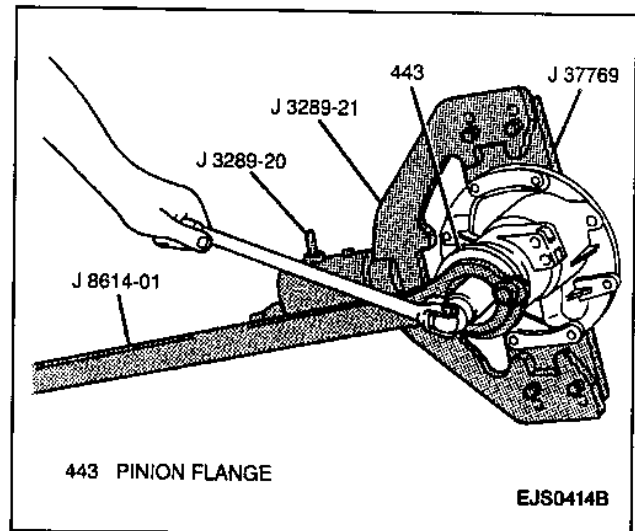

Figure 41—Removing Pinion Flange Nut
11. Pinion flange nut from pinion gear using a J 8614-01 to hold the pinion flange stationary (Figures 41 and 42).